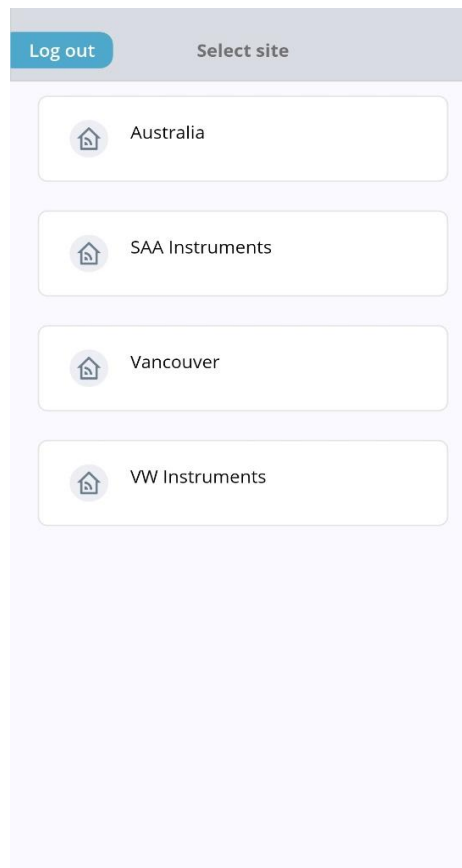

Figure 4: Select Site Menu
2. Enter the correct credentials to log in to the app. The Select Site Menu will appear (see Figure 4). Select the appropriate work site.